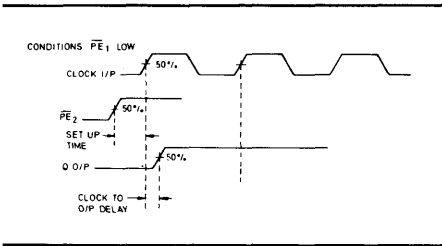

Fig. 3 Set-up timing diagram
- Set-up time is defined as the minimum time that can elapse between a L→H transition of a control input and the next L→H clock pulse transition to ensure that the $\bar{\tau}_{10}$ mode is forced by that clock pulse (see Fig. 3).